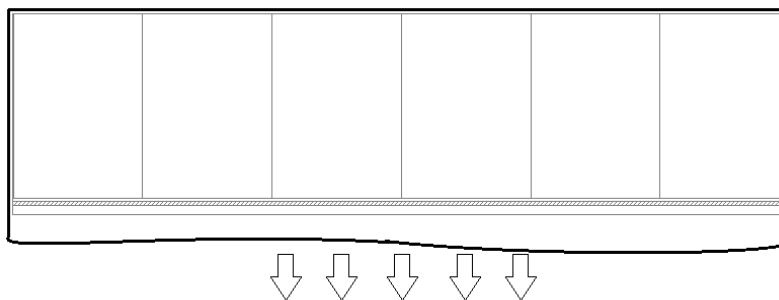
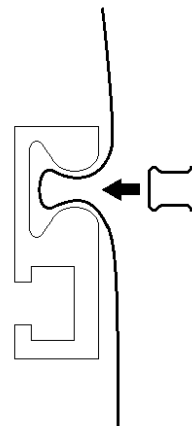

Fig121
Fig122
- **STEP 2:** Tension the polythene down to the base/side rail on one side starting in the middle – This is best done with one person at a hoop either side of centre (**Fig121**). Do not over tension, but when the cover is smooth from the ridge down to the rail, insert one of the plastic 'U' profiles into the cover slot on the rail (**Fig122**). A rubber hammer is preferred for this job as standard metal ones may crack the plastic profile. Work your way out to the ends using this method. Once the full side has been fixed using 'U' profiles, insert **Grey** plastic 'T' profiles into the 'U' profiles to secure.